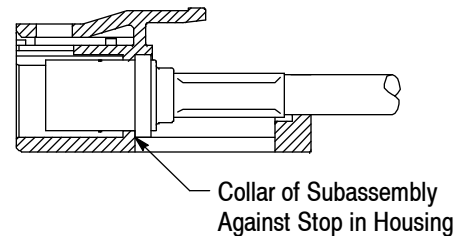

Figure 7
7. Slide the subassembly into the housing at an angle so that the mating end of the subassembly slides under the locking latch. See Figure 7, Detail A.
8. Push the subassembly into the housing until the collar bottoms on the stop. See Figure 7, Detail B.